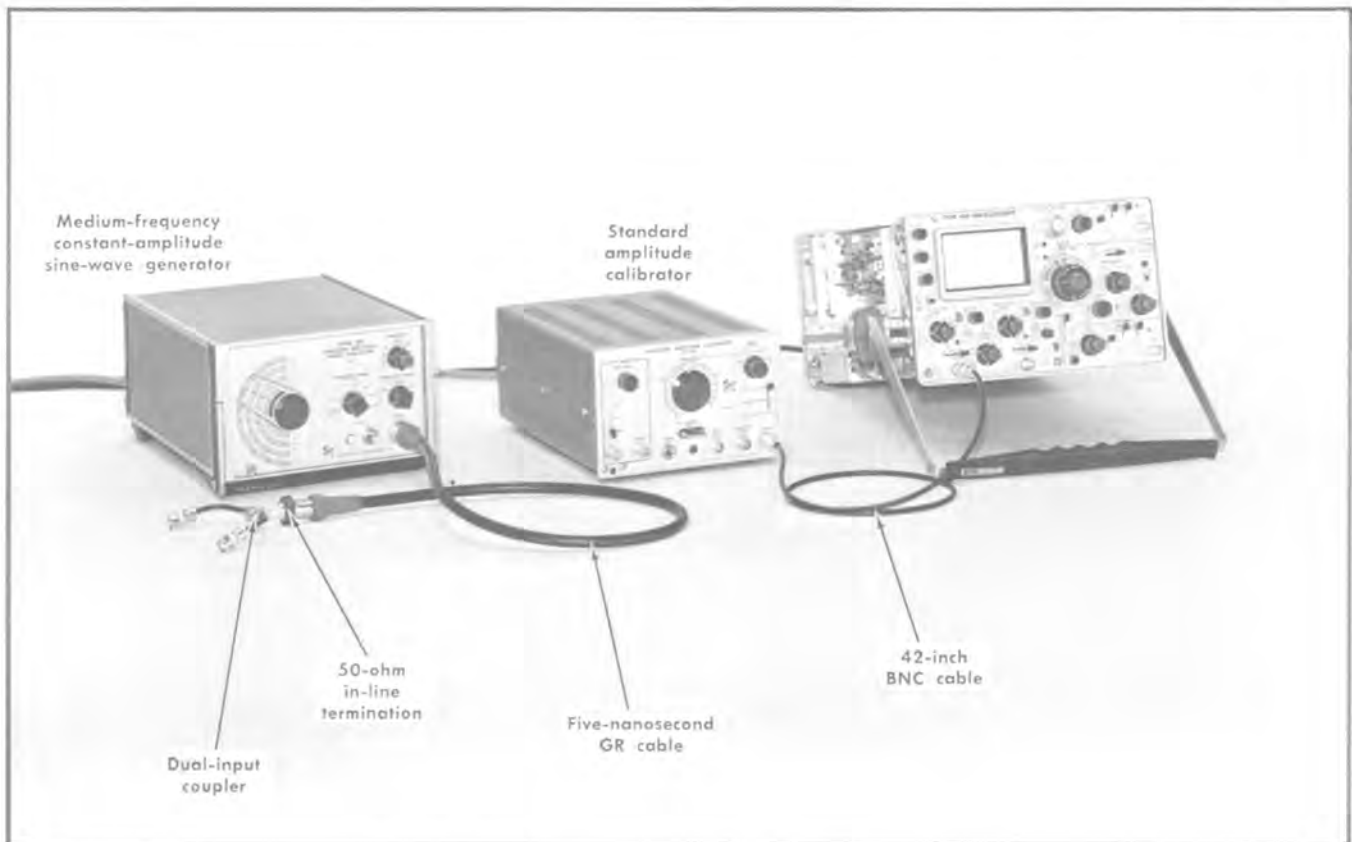

Fig. 6-57. Initial test equipment setup for steps 72 through 76.
- a. Test equipment setup is shown in Fig. 6-57.